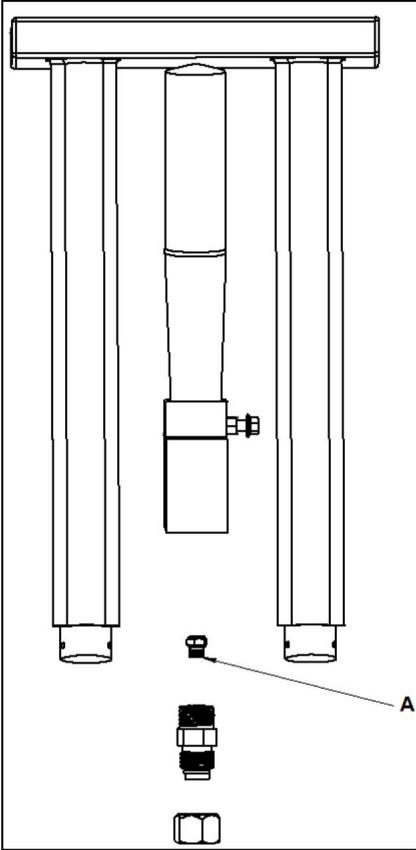

Figure 1
2. Use the injector suitable for the type of gas to be used and the "A" injector, taking into account the values in the table. (Figure 1)